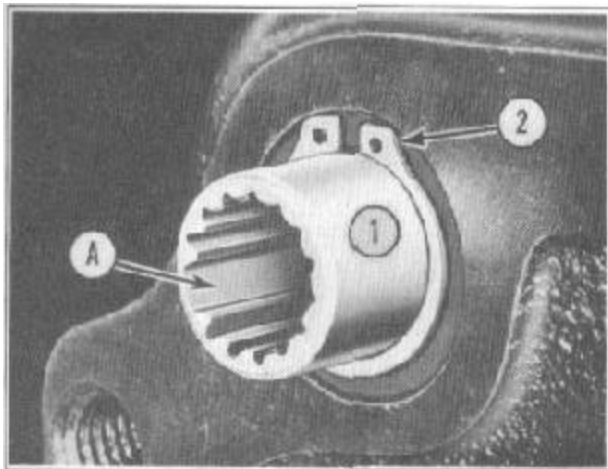

FIGURE 32
5. Place transmission selector lever in the "L" position, this will place the parking brake toggle arm sleeve (1) wide spline so that it will index properly with toggle shaft in the extension case. Groove will be to the left side of transmission case shown at (A), Figure 32.